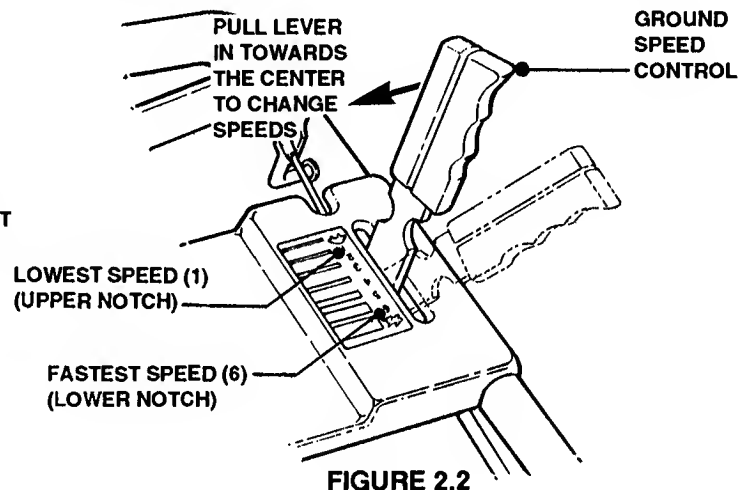

FIGURE 2.2
The mower has six (6) forward speeds. The GROUND SPEED CONTROL LEVER is moved inward and then forward to increase ground speed or rearward to decrease ground speed. Change ground speed for varying grass conditions, not engine speed. See Figure 2.2.